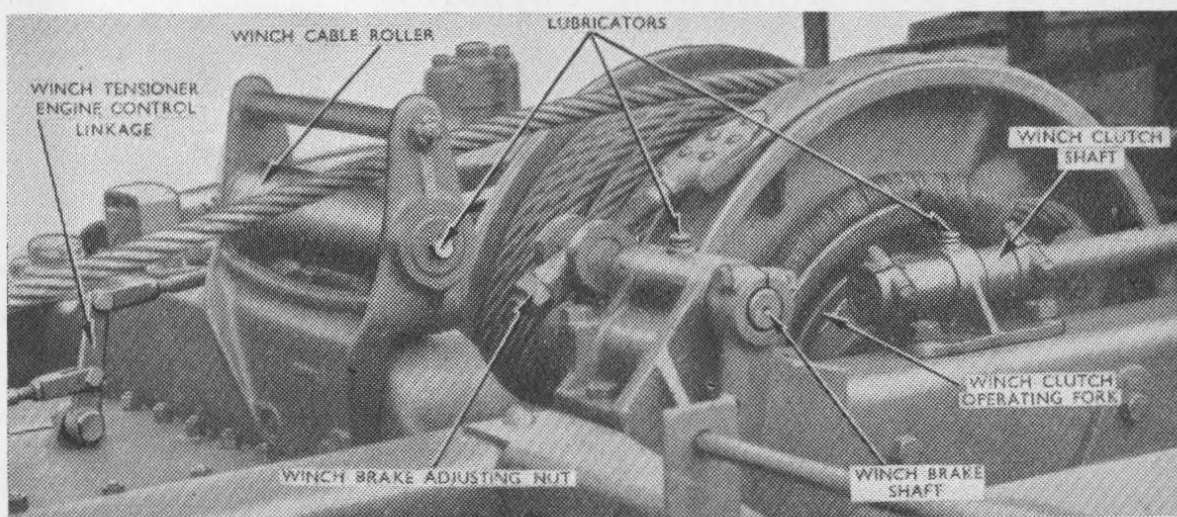

Fig. 21. Winch Details.
Do not interfere with the locknuts on the winch brake band or on the winch tensioner engine control trip gear (see Figs. 21 and 22).
- Winch clutch operating fork (Fig. 21).